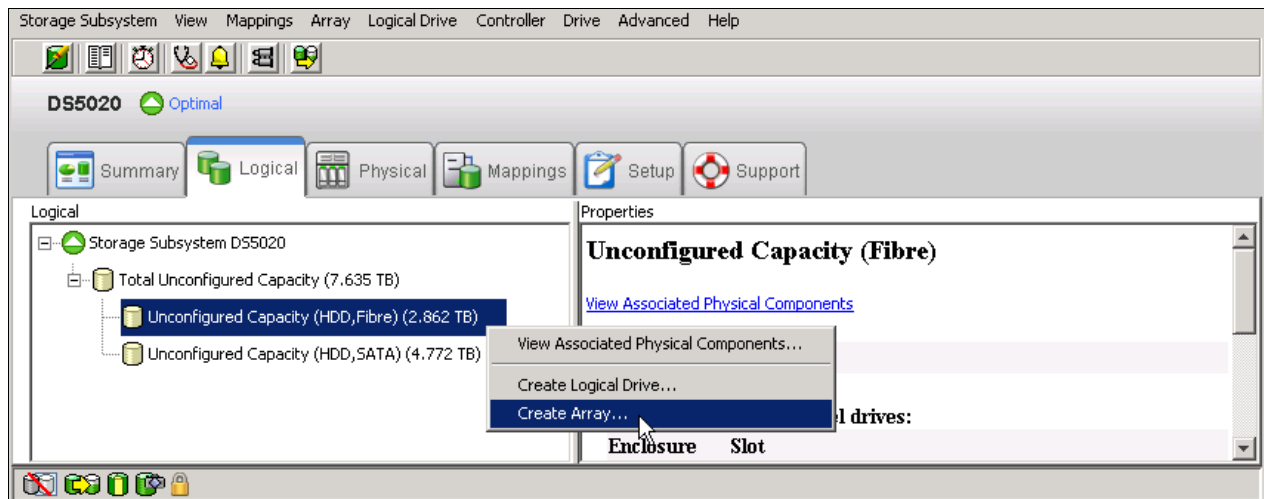

Figure 3-56 Create logical drive from unconfigured capacity
1. In the Subsystem Management window (Figure 3-56), right-click the unconfigured capacity for the selected drive type. Because we have selected unconfigured capacity, we first create an array option. Choosing **Create Logical Drive** causes a window to open that requests that you create the array first. Select **Create Array**.